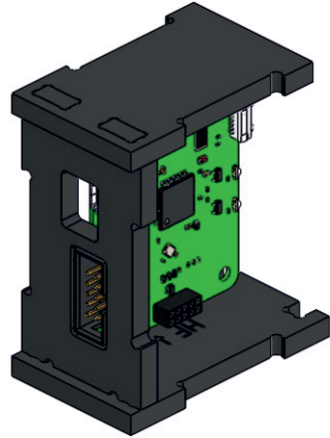

Fig. 67: Mounting plates
3) Attach the rear wall to the bottom plate (marked “HF↓”) and the top plate (marked “HF↑”). To do that, align rear wall protrusions with holes in the bottom and top plates and latch them (Fig. 67):